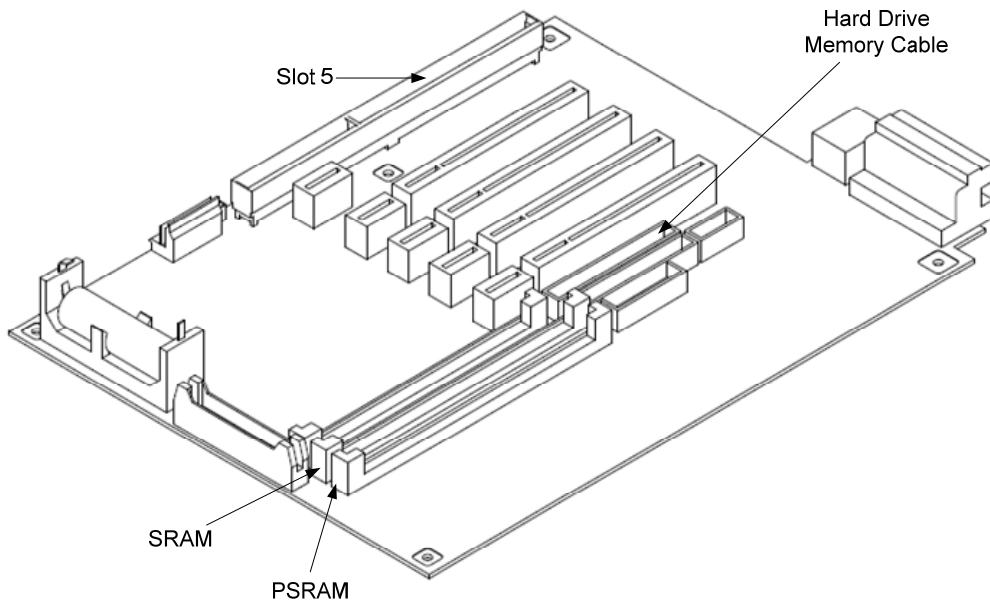
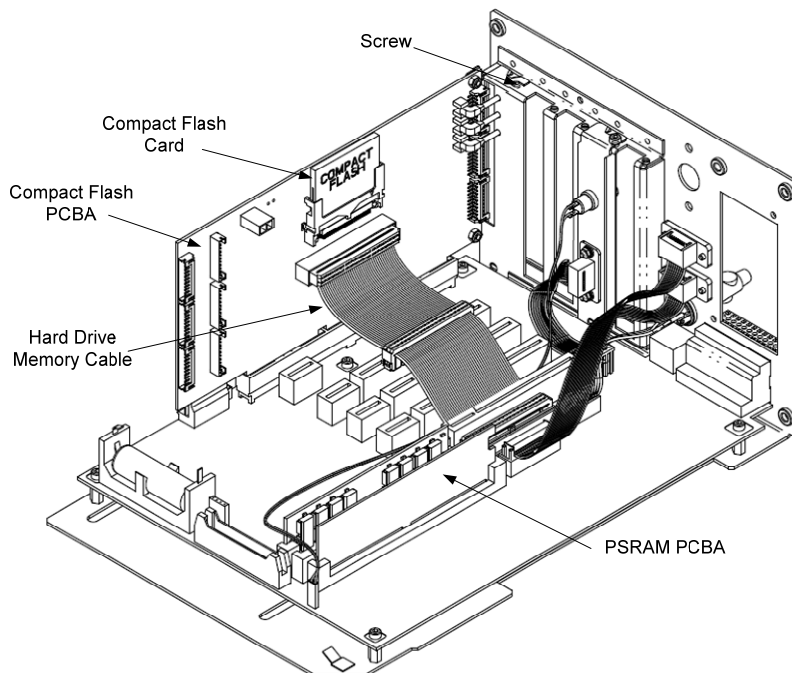
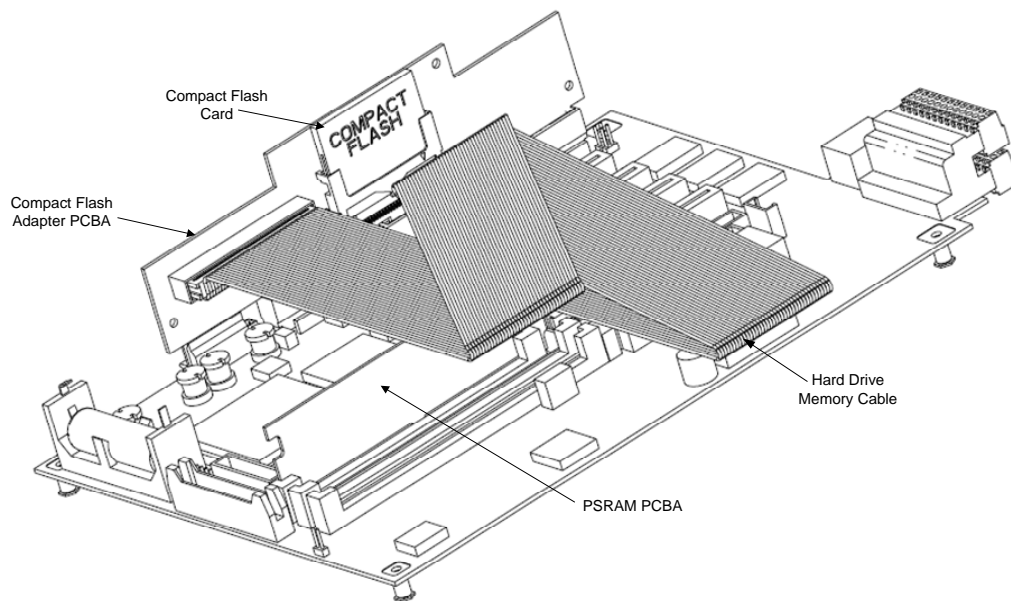

Figure 1: SYSCON Connector Locations
Figure 2: SYSCON with Compact Flash (Maxum/NAU)
Figure 3. SYSCON with Compact Flash (Advance Plus only)
The connector locations on the SYSCON for steps 5 – 9 are shown in Figure 1. For the finished assembly, refer to Figure 2.
10.	Install the M4 screw to secure the Compact Flash PCBA as shown in Figure 2.
The connector locations on the SYSCON for steps 4 – 8 are shown in Figure 1. For the finished assembly, refer to Figure 3.